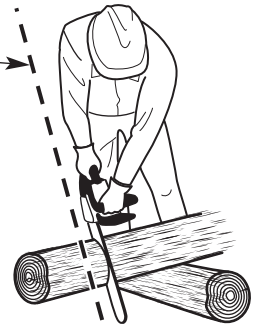

Fig. 5
- Use these hand placements whether the operator is left-handed or right-handed. This will help keep the operator slightly to the left of the unit and out of the direct line of the chain saw if kickback occurs (Fig. 5 and Fig. 6).